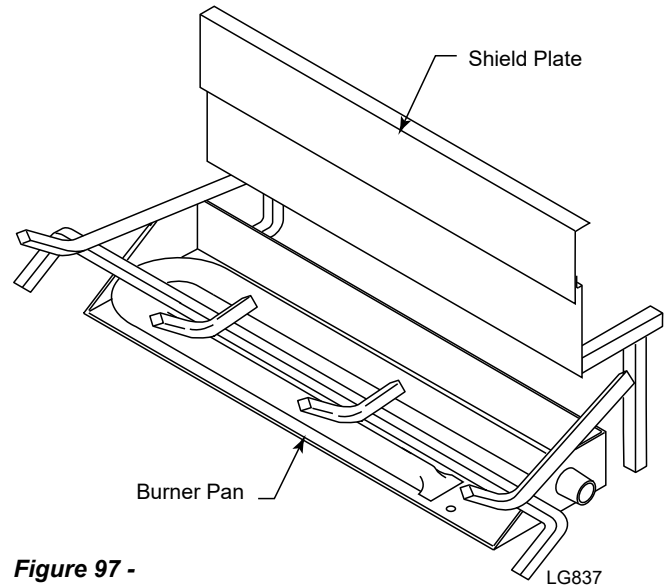

**Figure 96 -
11. Rest front of top top log #9 on log #8 and back of log #9 on left end of log #3. *Figure 96*